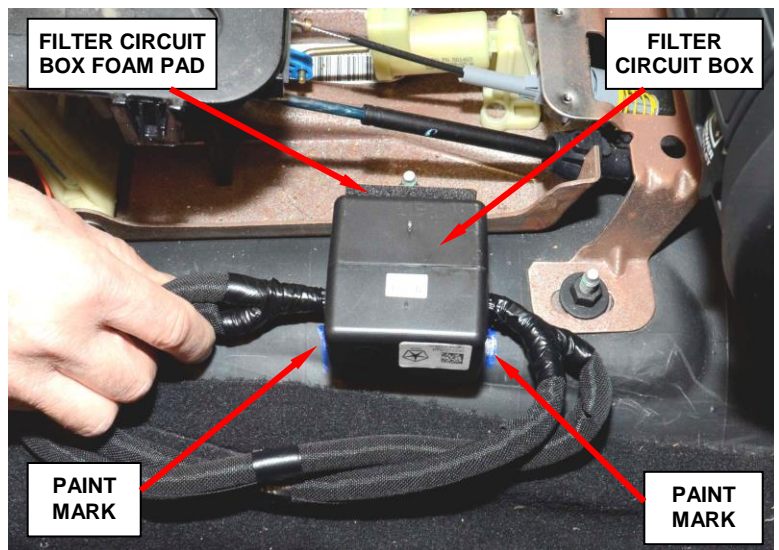

Figure 21 – Mark Filter Circuit Box Location
10. Mark the floor insulation pad on both sides of the filter circuit box as shown in Figure 21.